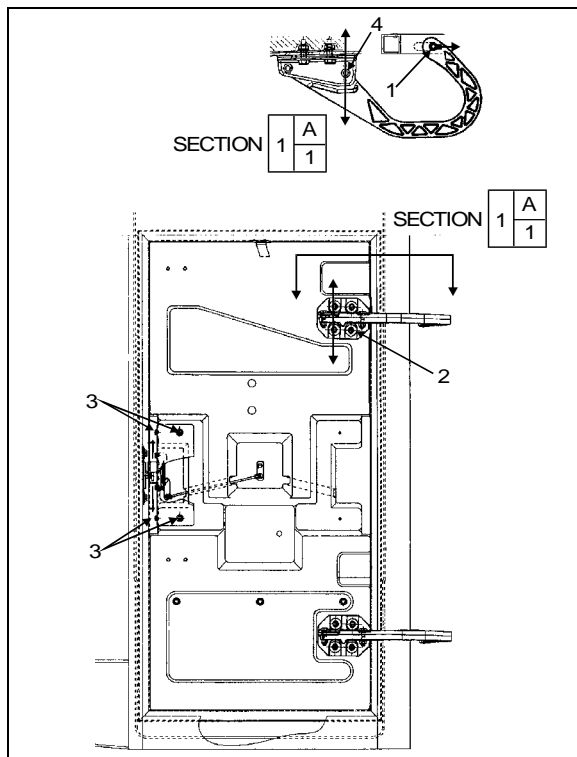

FIGURE 83: MAIN POWER COMP. DOOR
1. Loosen nut (1, Fig. 83).
3. Tighten nut (1, Fig. 83).
4. Loosen nut (4, Fig. 83).
7. Loosen screws (2, Fig. 83). Screws allow the door to be shifted "UP or DOWN".